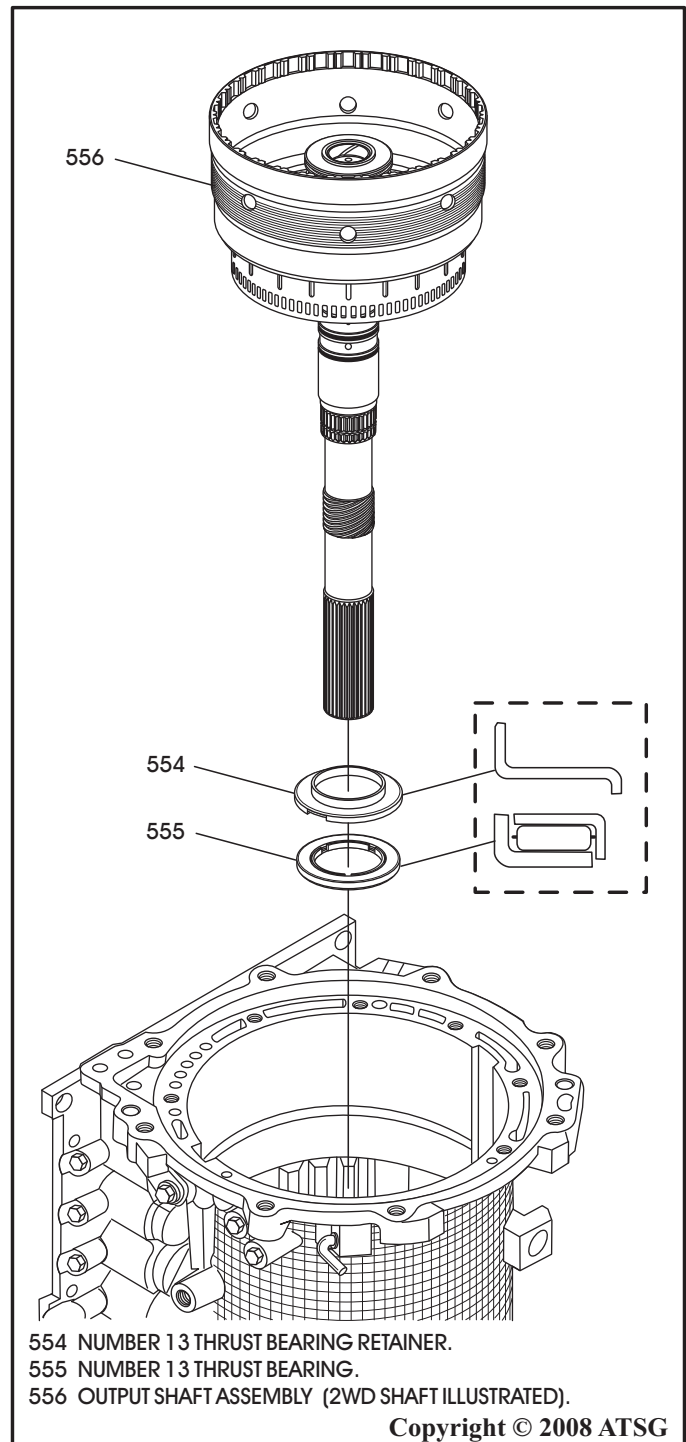

Figure 180
5. Install the completed output shaft ensuring that number 13 thrust bearing and retainer are still in place, as shown in Figure 180.